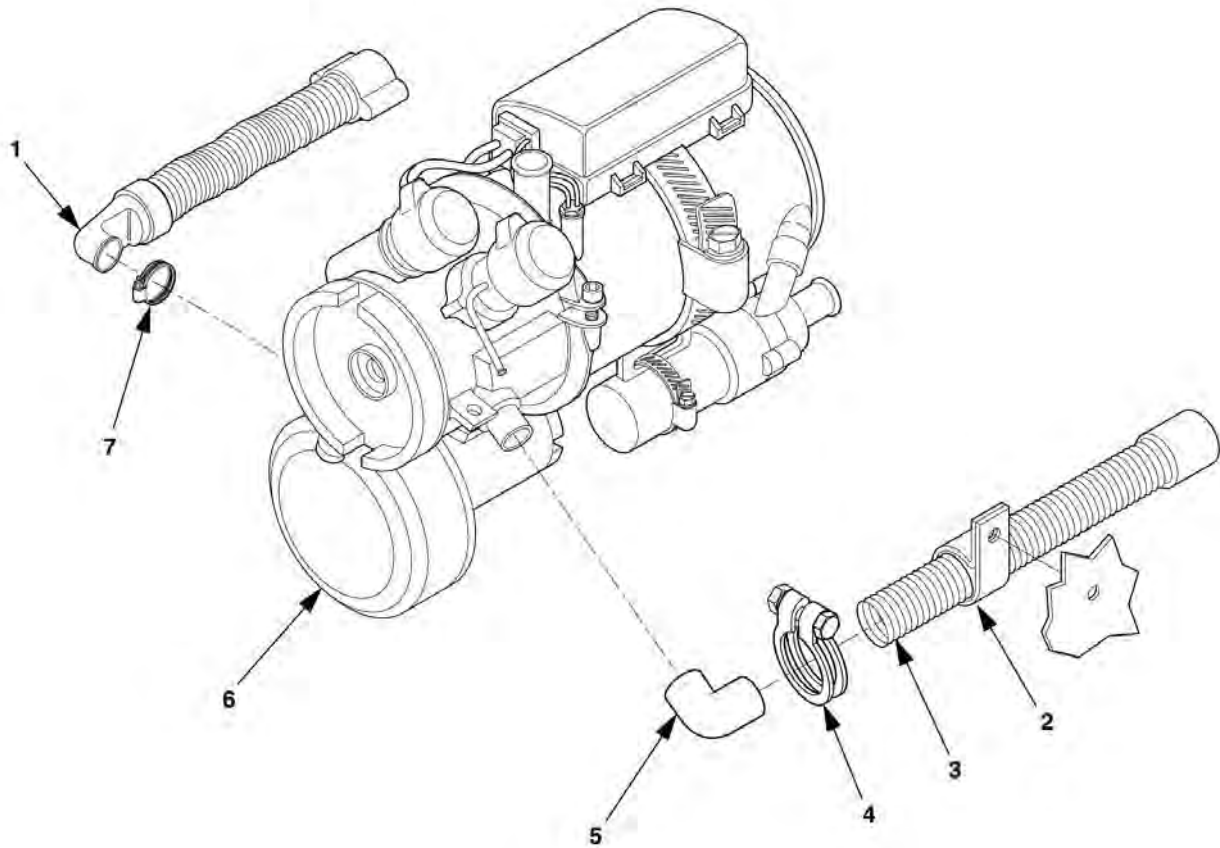

Figure 4-26. Air Inlet and Exhaust Hose Maintenance.
1. Loosen screw clamp (7), Figure 4-26, to remove air inlet hose (1) from heater (6).
2. Loosen screw clamp (4) to remove air exhaust hose (3) and elbow (5) from heater (6).
3. Remove RTV and air exhaust hose (3) and clamp (2).